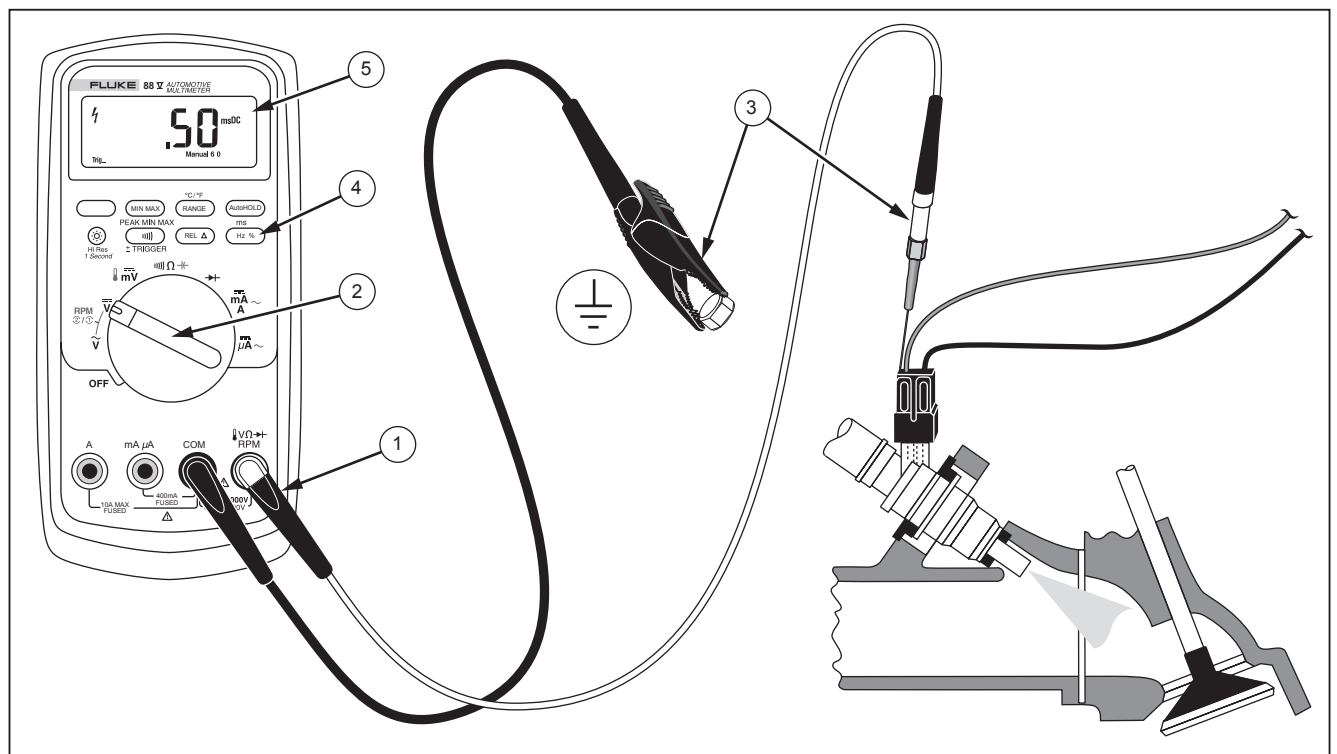

Figure 12. Measuring Pulse Width on a Port Fuel Injector
1. Insert test leads in the input terminals shown in Figure 12.